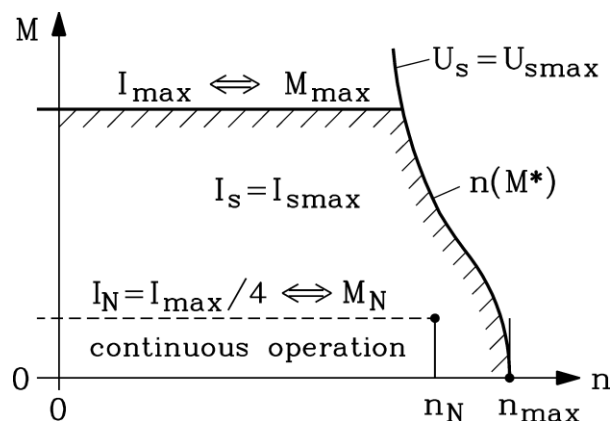

Fig. 27-1: Voltage, current and thermal limit of PM drive
- 6.) Draw the $M(n)$ -curve of the PM motor Fig. 27-1 due to current and voltage limit. Give further $M(n)$ -curve for continuous operation (Scale: Abscissa: 100/min per cm, ordinate: 10 Nm per cm).